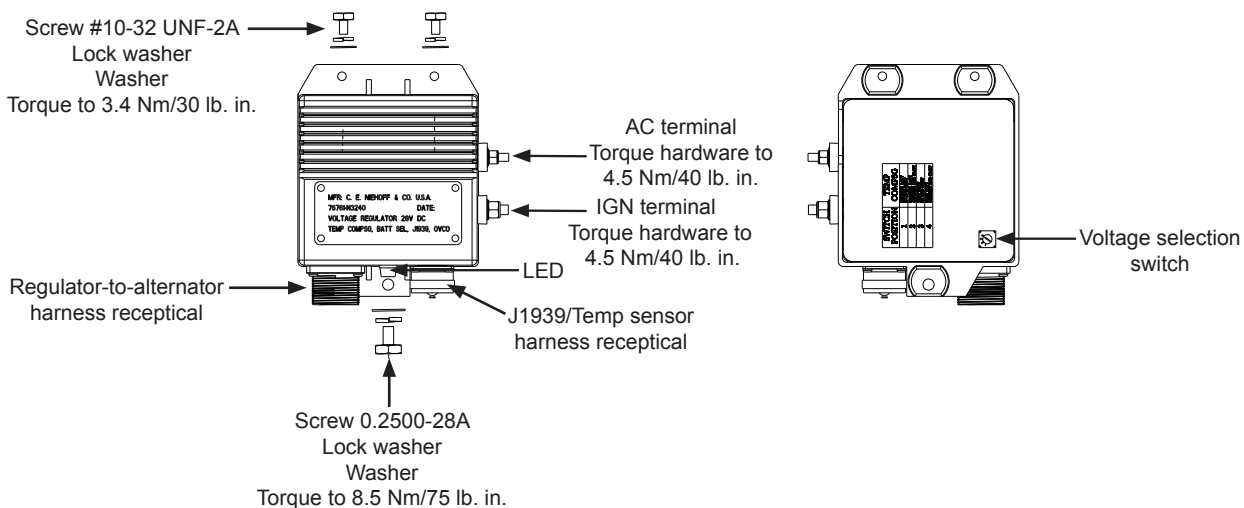

Figure 5: N3240 / N3243 / N3256 / N3276 Regulator
2. Mount regulator on alternator. Install washer, lockwasher, and #10-32 UNF-2 screw in rear mounting tab holes and torque to 3.4 Nm/20 lb. in. Install washer, lockwasher, and 0.2500-28A screw in front mounting tab hole and torque to 8.5 Nm/75 lb. in. See Figure 5.
3. Connect switchable ignition to IGN terminal, if required to energize regulator. See Figure 5.